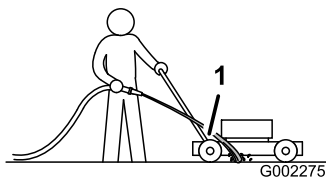

Figure 19
3. Hold the running garden hose at handle level and direct the water to flow on the ground just in front of the right, rear wheel (Figure 19).